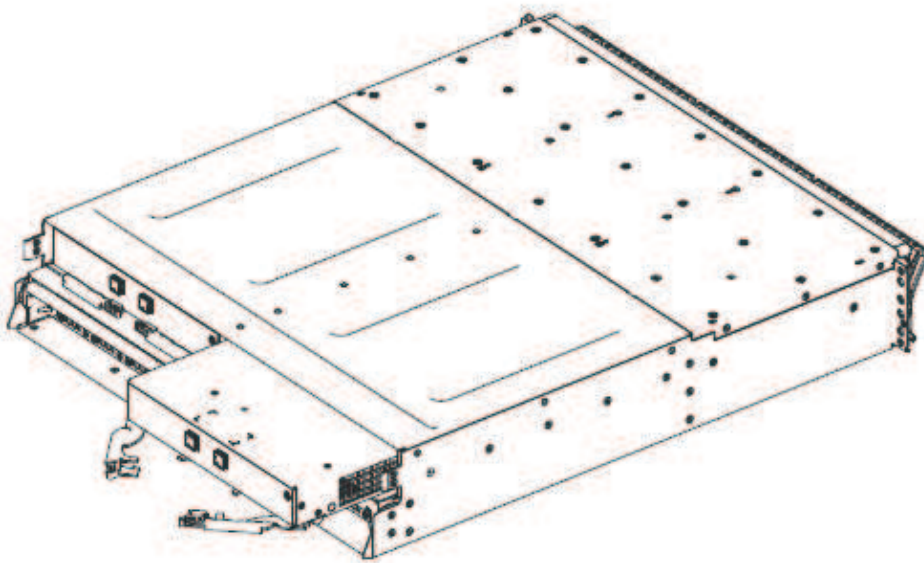

Figure 81. Removing and replacing the Storwize V7000 Gen2 expansion canister
6. Open the two release levers as shown in Figure 81 on page 301. The canister moves out of the slot approximately 0.6 cm (0.25 inch).